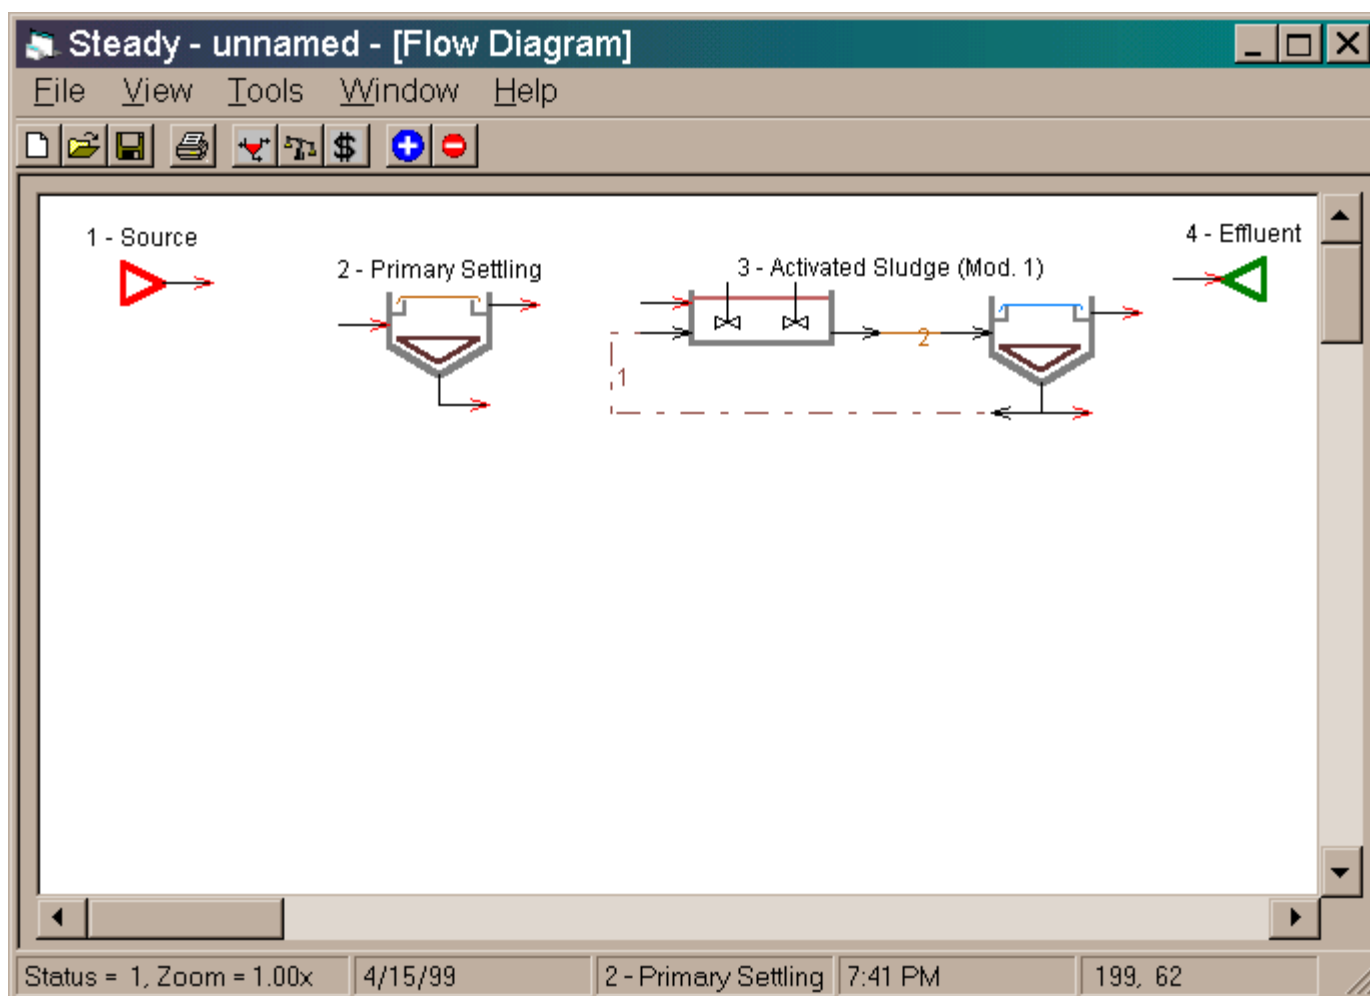

Figure 3 - Location of Primary Settling Tank, Activated Sludge System and Effluent
7. Add an **Effluent** to the right of the activated sludge system. In this example we will use the default values for the parameters of the units you just added. If you want, you can explore these values by clicking the right mouse button over a unit's icon and selecting the **Edit Parameters** command. By now, your program window should look something like Figure 3.